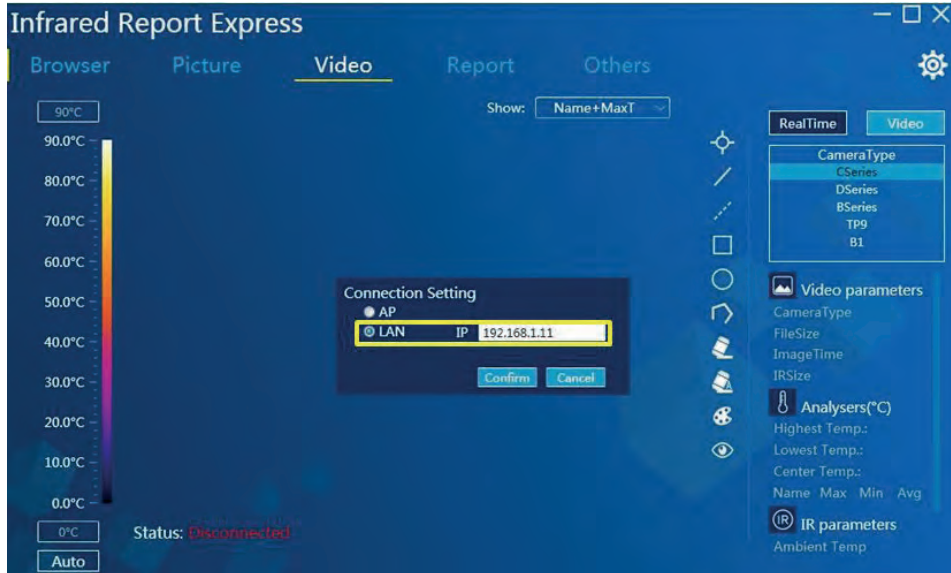

Figure 3-36
3. Utilize the network cable equipment to connect the PC reliably and click the device LAN shortcut **LAN#** to open the network connection function of the device. Open the infrared analysis software to select “C Series” in the model selection area, select “LAN” in the “Connection Settings” pop-up dialog box and input the device IP. See Figure 3-36: